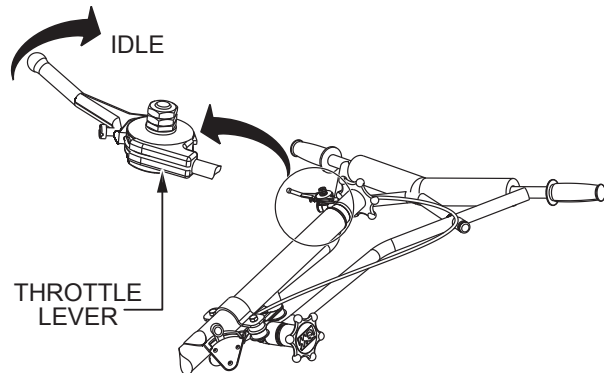

Figure 39. Handlebar Throttle Lever (IDLE)
1. Return the handlebar throttle lever to the **IDLE** position (Figure 39) and let the engine run for three minutes at low speed.